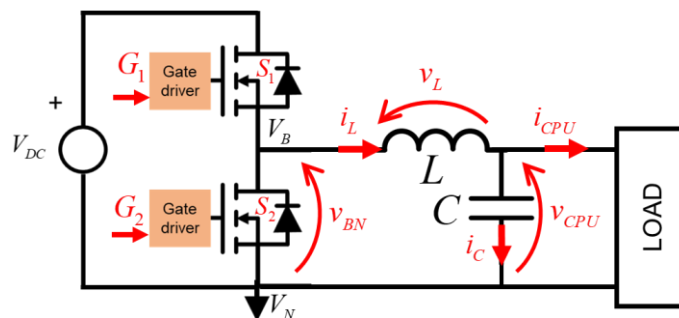

Figure 1
- 1.5 Consider the bidirectional version of the converter as shown in Fig. 1